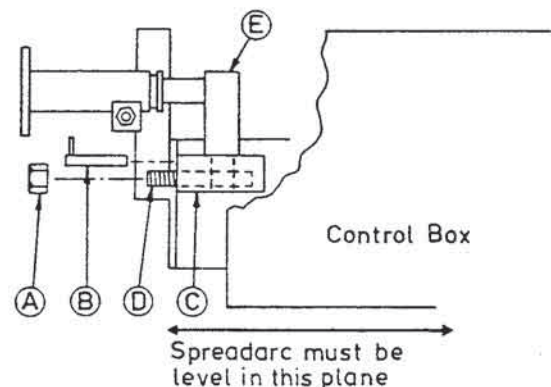

Figure 1
2. Remove the hex nut (A) and the support pin (B) from the Spreadarc mounting block (C). With the draw bolt (D) properly in place, mount the Spreadarc to the head support or vertical lift (E). Maintain support until the support pin (B) is inserted into the mounting block (C), and install hex nut (A) on draw bolt (D). Rotate the Spreadarc until it is perpendicular to the travel carriage beam and tighten hex nut (A). Make certain that travel carriage beam or stationary mounting is properly squared up. The Spreadarc must be level in the horizontal plane within $\pm 2^\circ$ (see Figure 1).